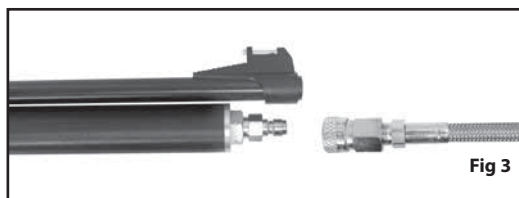

Fig 3
- Connect the quick-disconnect fitting on the hand pump hose to the fill nipple (Fig. 3).
- Connect the quick-disconnect fitting on the adaptor's hose to the fill nipple (Fig. 3).